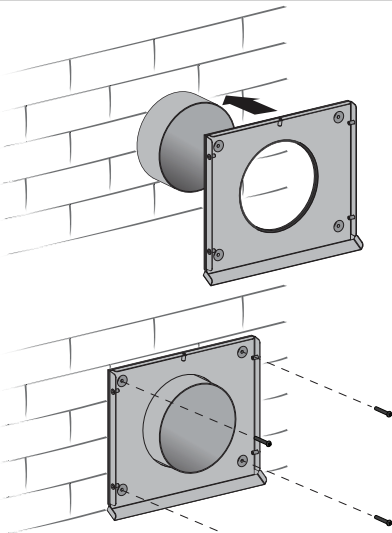

Figure 11
11. Fix the back part of the exterior-mounted hood on the wall with the brass screws as shown in Figure 11.